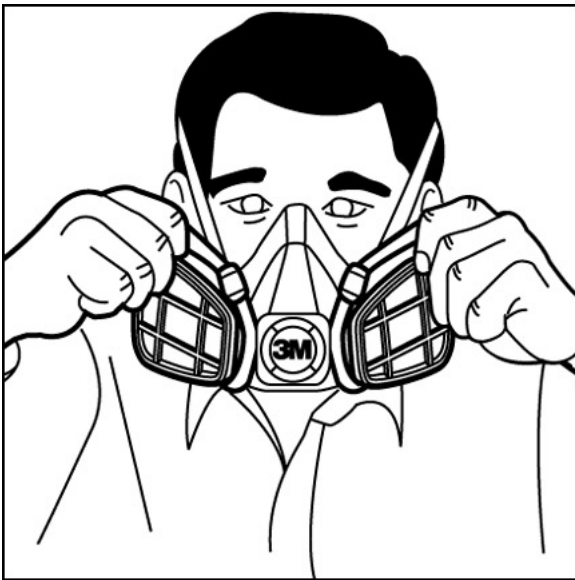

Fig. 3
3. Position the facepiece low on the bridge of your nose for optimal visibility and the best possible fit. (Fig. 3)